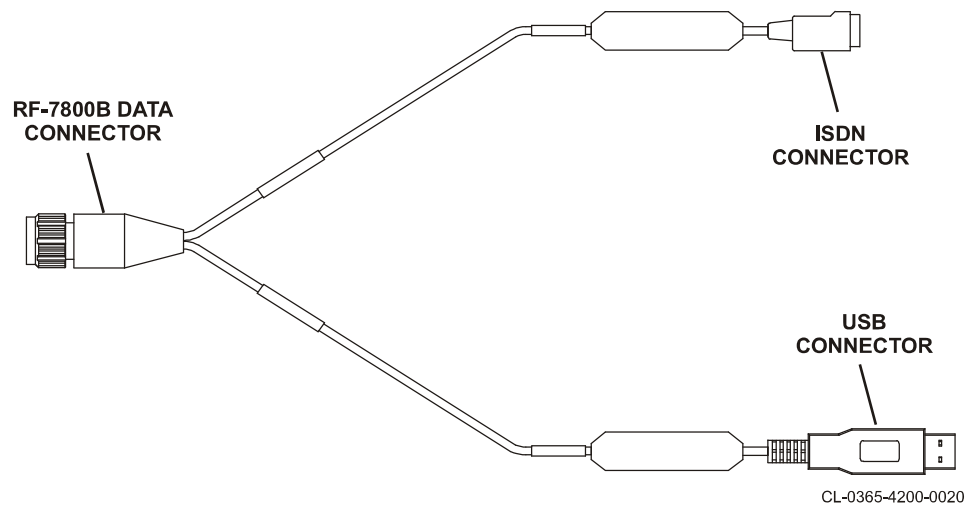

Figure 3-5. Standalone USB and ISDN Cable, 12043-0836-A010 (Optional)
Connect the BGAN terminal to the computer USB port using a USB cable option. Use Standalone Ethernet, ISDN, USB Cable, 12043-0832-A010, or Standalone USB and ISDN Cable, 12043-0836-A010 (see Figure 3-5). On first use of the USB port, the computer will detect that new USB hardware has been connected. Follow the installation instructions for the USB Local Area Network (LAN) LINK driver software.
- See Figure 3-5 for Standalone USB and ISDN Cable, 12043-0836-A010.